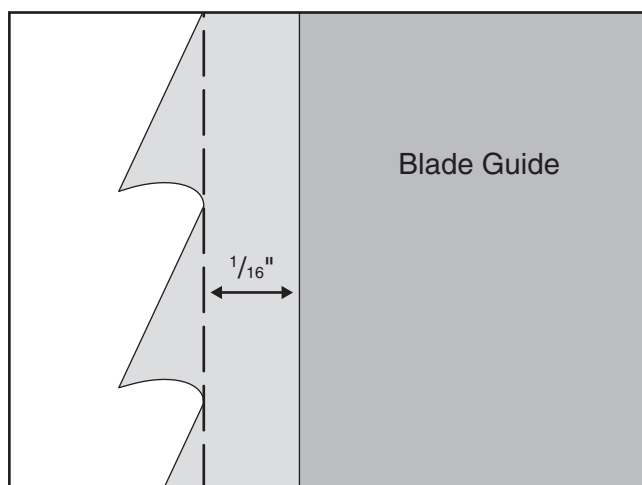

Figure 28. Blade guides positioned approximately $\frac{1}{16}$ " behind tooth gullets.
4. Position the blade guides so that they are approximately $\frac{1}{16}$ " behind the tooth gullets (see **Figure 28**), then re-tighten the blade guide bracket cap screw.